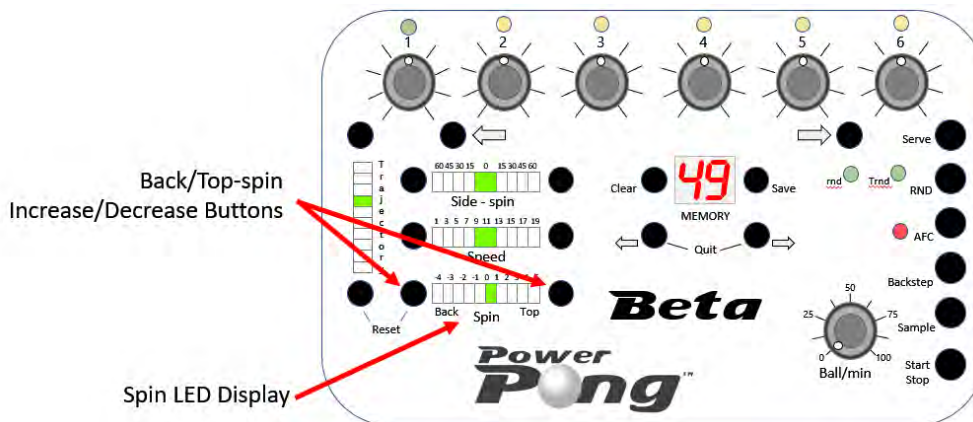

Figure 3-5
3.2.5 Ball Back/Top-Spin Buttons / LED Display (Figure 3-5)